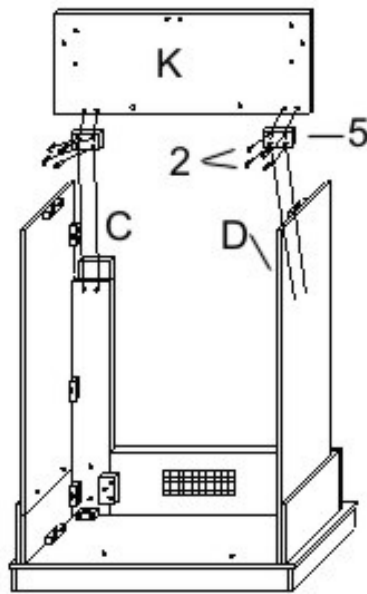

Fig. 8
**Step 8:** Attach the FRONT UPPER PANEL (K) to the LEFT & RIGHT FRONT PANELS (C, D) with 2 FOUR-HOLE WOOD CONNECTORS (5) and 8 KD screws (2). See Fig.8.